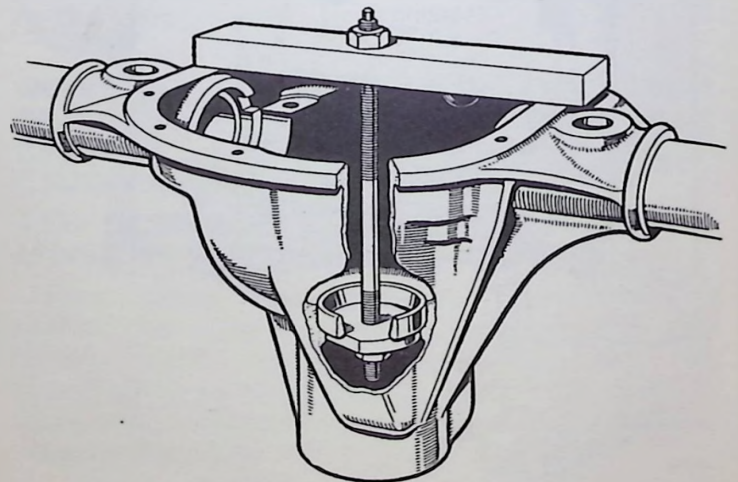

Fig. 21.
- (4) Remove the pinion oil seal together with the oil slinger and outer bearing cone.
- (5) Examine the outer bearing for wear and, if replacement is required, extract the bearing cup, using *Tool No. SE.105* in the *Service Tool List*, shown in *Fig. 21*. The extractor plate should be installed behind the cup and then the drawbar may be fitted together with the extractor bar which seats on the nose of the gear carrier. The bearing cup may then be withdrawn by tightening the nut on the drawbar.
- (6) Remove the pinion inner bearing cup as shown in *Fig. 21*, using *Tool No. SE.105* in the *Service Tool List*, if the bearing requires replacement or adjustment of the pinion setting is to be undertaken.